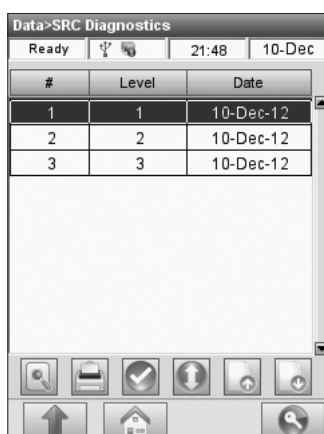
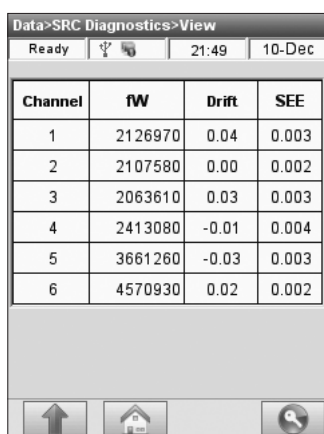

Fig. 6-19 Select Measurement
Fig. 6-20 SRC Diagnostics
3. In the **<Data - SRC Diagnostics>** screen (Fig. 6-19), select the desired measurement and press the **<View>** button  to display the measurement results (Fig. 6-20).
5. To print individual results, highlight the desired measurement (Fig. 6-19).